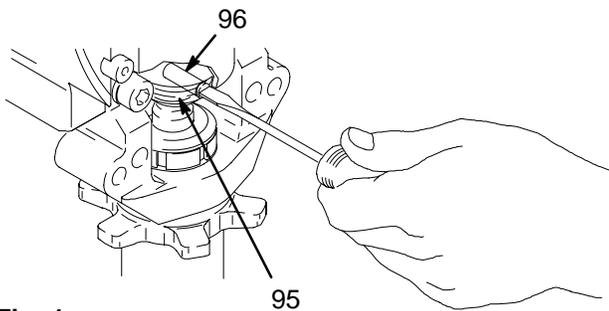

Fig. 1 7675B
3. Unscrew suction tube (12) from pump, hold wrench on pump intake valve (A) to keep pump from loosening.
4. Disconnect pump outlet hose (61) from displacement pump outlet nipple (6).
5. Fig. 1. Use screwdriver to push up retaining spring (95) at top of pump. Push out pin (96).